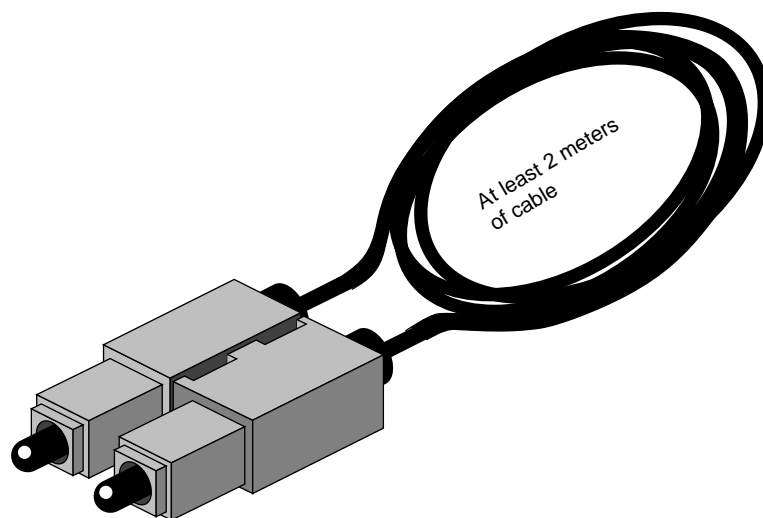

Figure 3-3 Fiber-optic Loopback Connector
- Attach a dual-SC, multimode loopback connector to the system's I/O panel plate. This special device, illustrated in Figure 3-3, connects the IRIS HIPPI-Serial DST (receive) and SRC (transmit) fibers to each other.